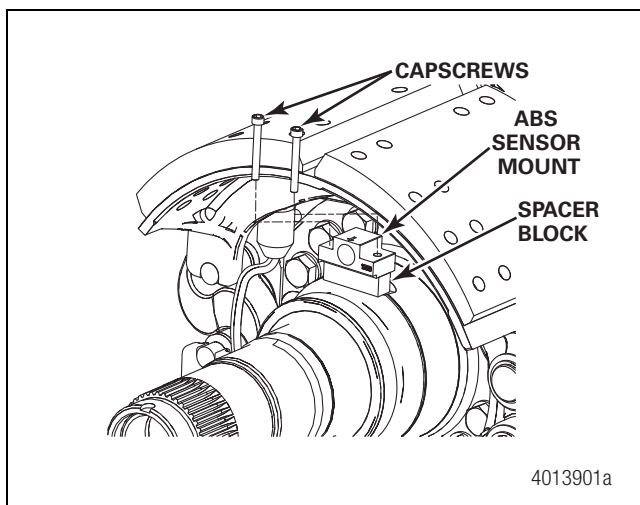

Figure 5.19
14. Route the ABS sensor through the brake dust shield. Place the ABS sensor mount and spacer block in position on the spindle with the same orientation as originally installed. Install the two ABS sensor block cap screws and tighten to 7-11 lb-ft (10-15 N•m). Figure 5.19.